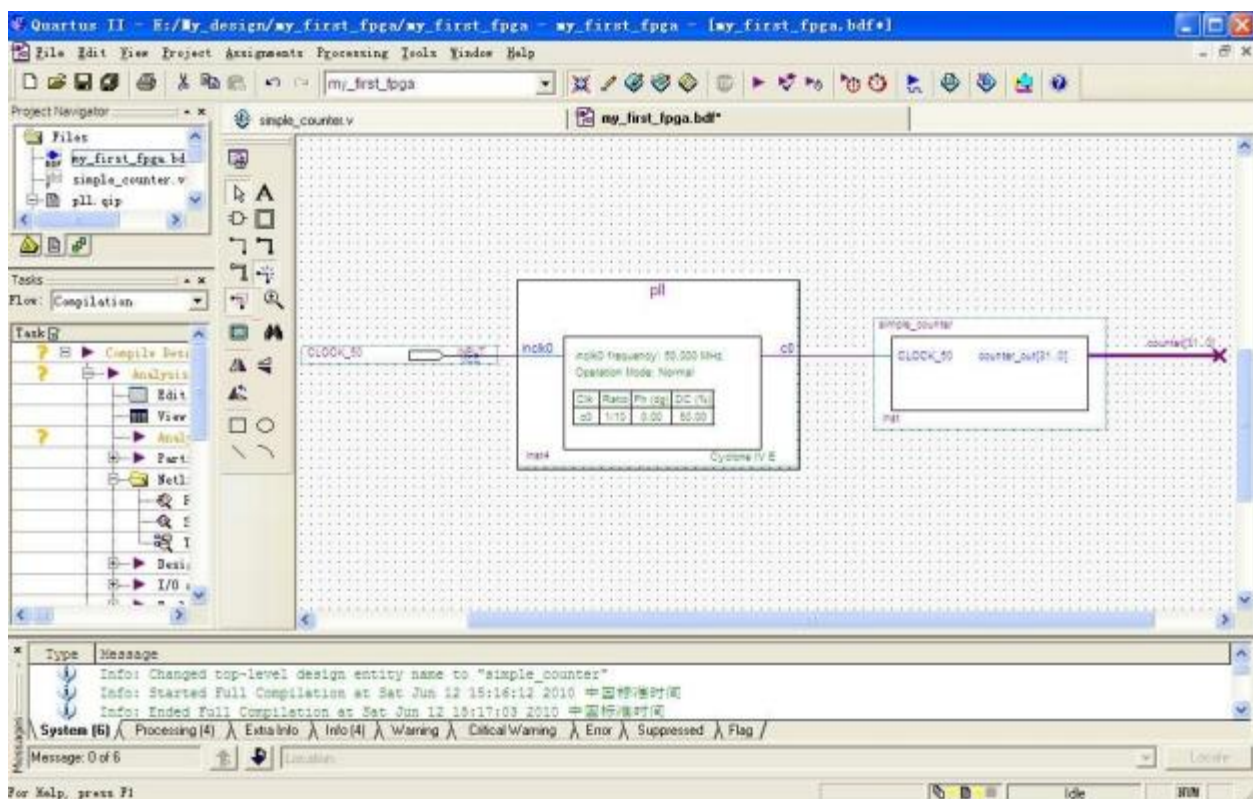

Figure 3-21 BDF
- k. Click OK. **Figure 3-21** shows the BDF.